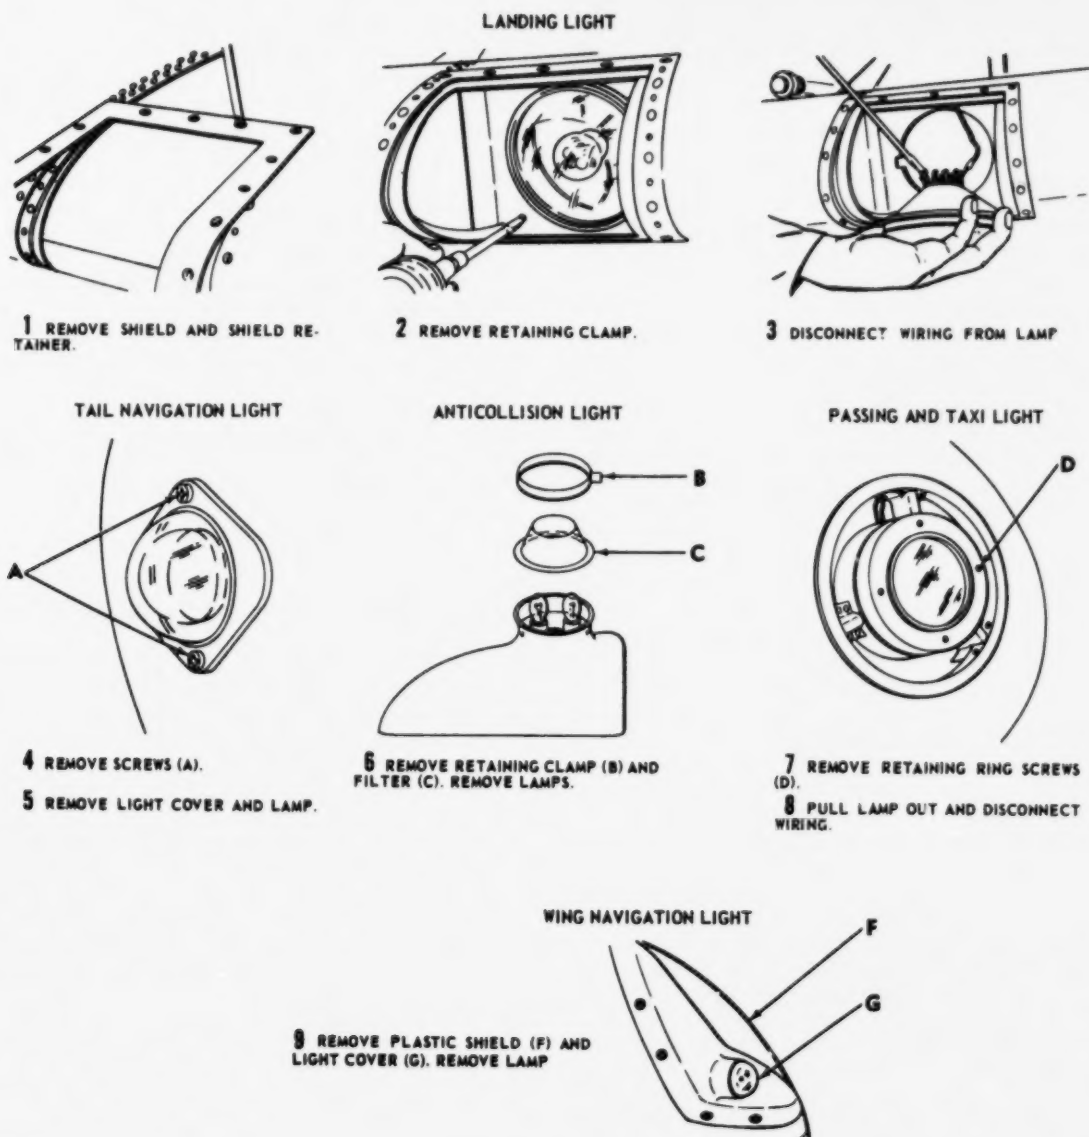

Figure 12-17. Exterior lighting
c. Installation. (1) Place battery and generator master switches in OFF position. Make sure external power source is disconnected.
(2) Install wiring to proper terminals at rear of sealed beam unit. Install sealed beam unit light retaining clamp and secure.
(3) Install shield and shield retainer in position on leading edge of wing.
(4) Secure retainer by installing screws.
d. Lamp replacement. See figure 12-17.
(2) Install disconnect plug to anti-collision light.
(3) Install light in fairing and secure with retaining screws.
The lens assembly, figure 12-17, illustration 6, item C, on the U-8F vertical stabilizer installation has a red stripe painted on the forward side of the lens. This red stripe helps prevent glare from hitting the instrument panel and averts possible pilot fixation. Refer to appendix "E" of this Technical Manual for painting instructions.